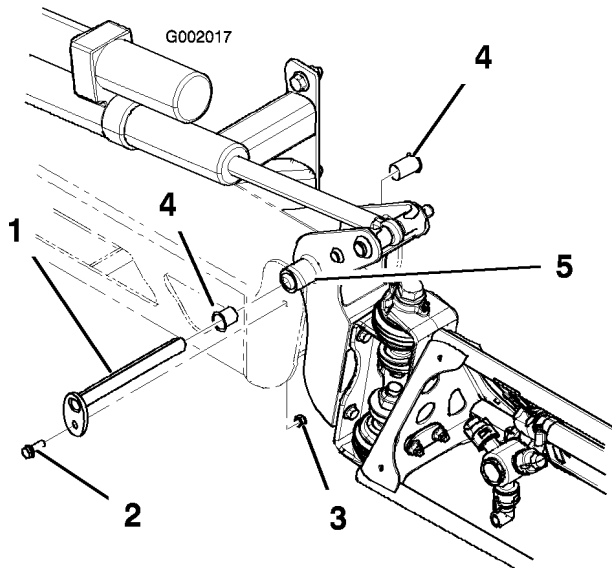

Figure 47
- With the weight of the boom supported, remove the bolt and nut securing the pivot pin to the boom assembly (Figure 47). Remove the pivot pin.
- Remove and inspect the nylon bushings from the front and back sides of the pivot bracket (Figure 47). Replace any damaged bushings.
- Install the boom and pivot bracket assembly into the center frame, aligning the openings (Figure 47).